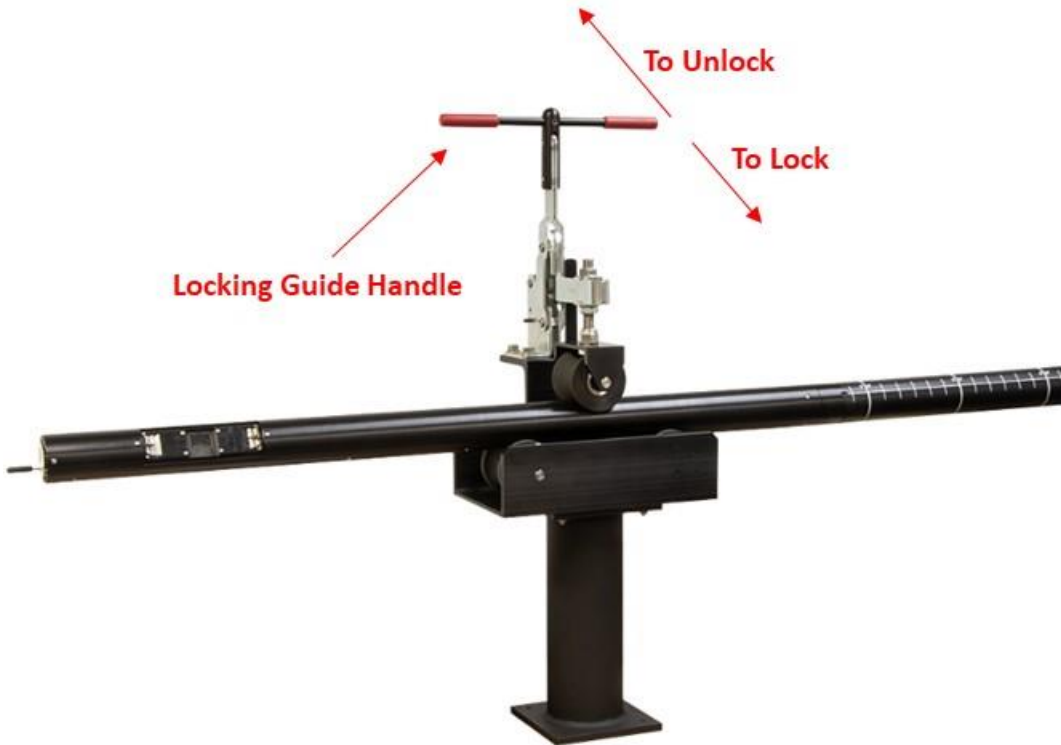

Figure 7 Linear Encoder
- (5) Refer to Figure 7. Unlock the encoder handle. Feed the camera / poles into the Encoder assembly. Lock the handle.